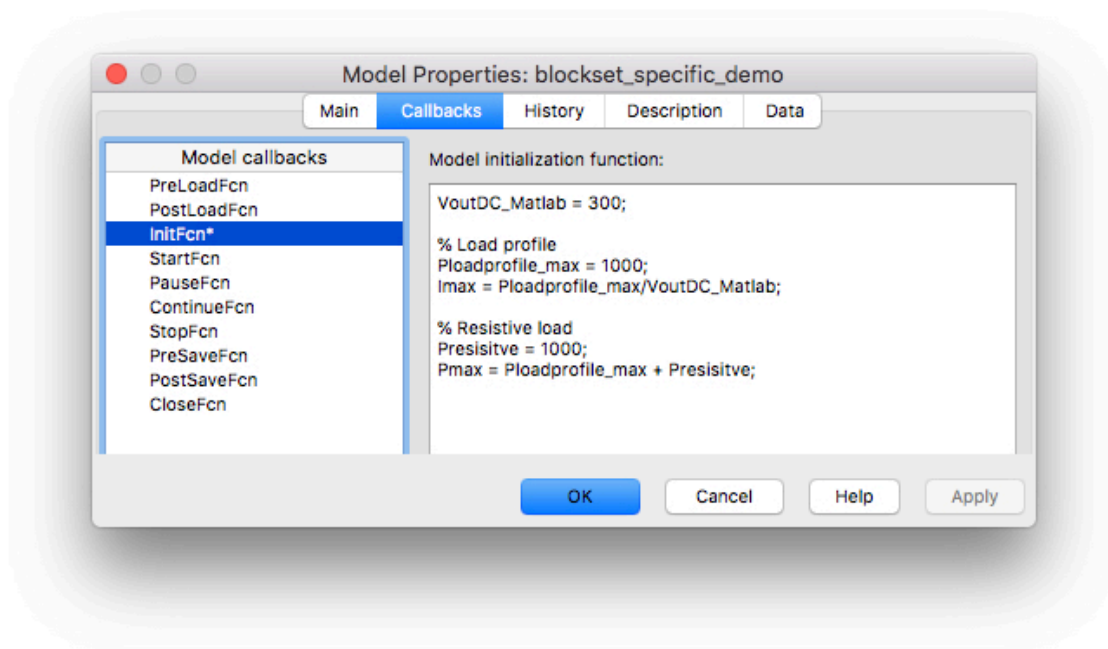

Fig. 5: Initialization to the MATLAB base workspace by the InitFcn of the Model Properties Callbacks
- **Model callbacks:** Variables for a Simulink model, including any embedded PLECS Circuit blocks, can be initialized in the **InitFcn** tab of the **Model Properties + Callbacks**. In this case variables are initialized to the MATLAB base workspace. To access this menu right-click on the Simulink schematic and navigate to **Model Properties**. For this example initialization commands are depicted in Fig. 5.
In all official PLECS Blockset demo models the variables are initialized in the **InitFcn** of the **Model Properties Callbacks**, as shown in Fig. 5.